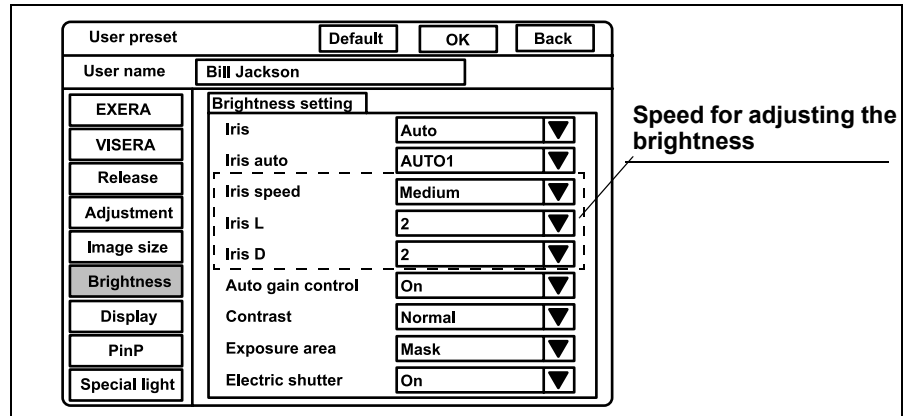

Figure 9.26
1. Click “ ▼ ” of “Iris speed” (see Figure 9.26). The iris speeds appear in the pull-down menu.
3. Click “▼” of “Iris L (Iris D)” (see Figure 9.26). The fine-tuning speeds appear in the pull-down menu.